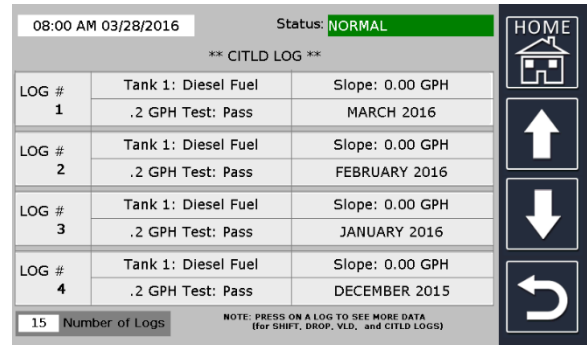

Figure 3.6.2
c) After pressing the following screen will appear and show logs for the selected tank. Select a report to display more detailed information. (Figure 3.6.2)